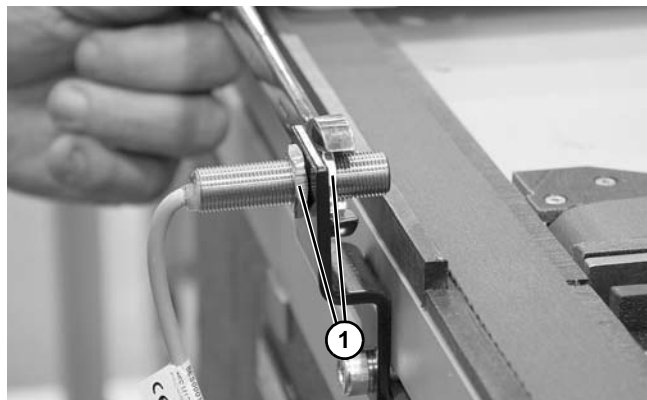
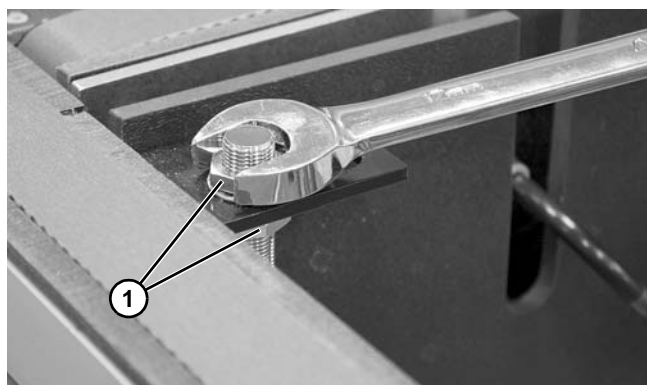

Figure 11
Figure 12
3. Loosen hex nuts (**Figure 11, item 1**) or (**Figure 12, item 1**) securing sensor to bracket.